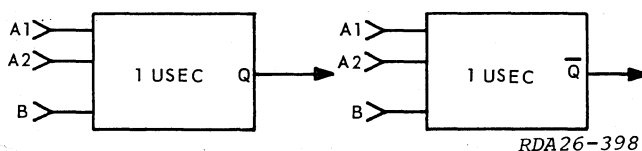

Figure 2-5. SN74121, Single Shot
The operation of single-shot circuits was covered in previous blocks. The one used in the COM-TRAN 10 has a few differences. Its triggering circuit is made up of three inputs. The logic symbols for this single shot are shown in figure 2-5. A(1), A(2) and B are the three inputs which are used to trigger a single shot. Each single shot has two possible outputs, Q and  $\bar{Q}$ , but only one will be wired into the rest of the circuit. The logic symbol will only show the one being used.